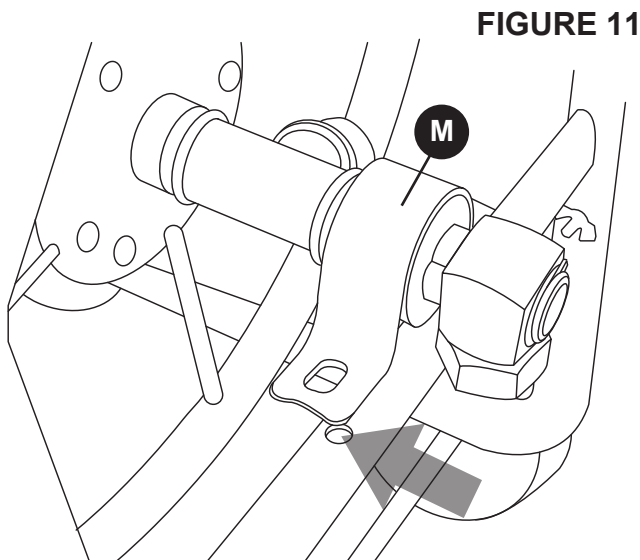

FIGURE 11
11. Place the spool and water connection unit (**M**) on the frame so the u-bushing is oriented over the holes on the frame. **See Figure 11**